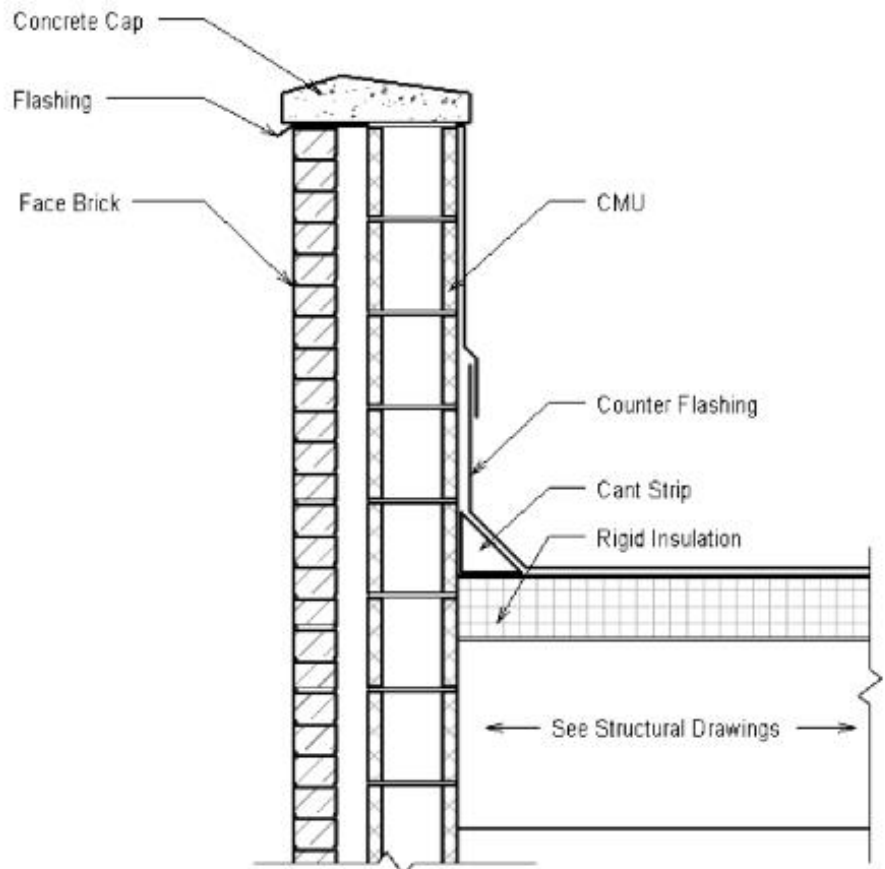

Figure 16–34
3. Add the text and leaders shown in Figure 16–34. Use Alignments to place the leader points and text.